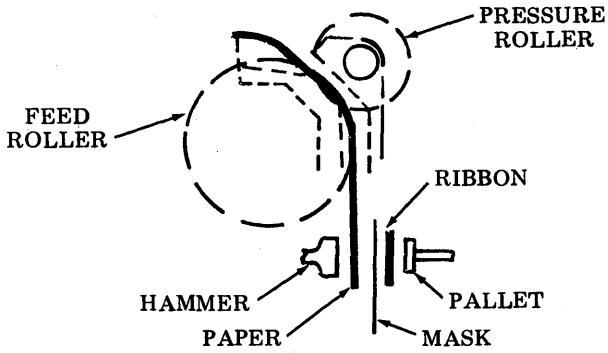

Fig. 51—Friction Feed Printer Equipped With Noise-Reduction Parts
9.07 With printer raised and paper access chute opened, feed paper up by hand behind the mask and between the feed roller and pressure roller, making sure point of paper does not enter opening in mask (Fig. 51). (The mask is a plastic piece mounted between the ribbon and the feed roller. An opening in the mask allows for the ribbon to contact the paper during printing.)